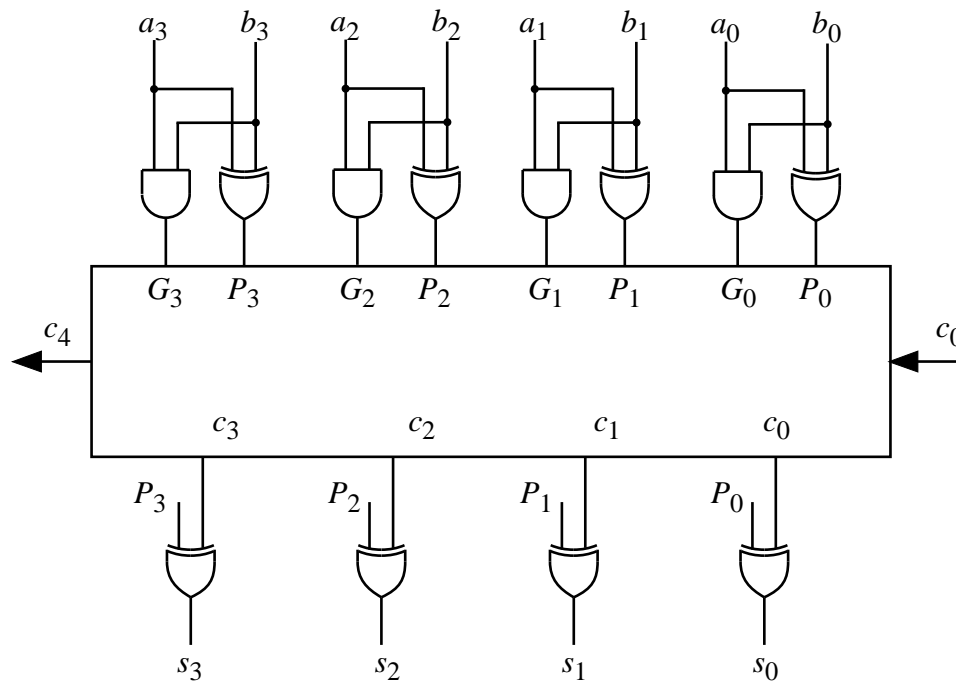

Figure 5: 4-Bit carry lookahead adder implementation detail.
Figure 5 shows that a 4-bit CLA is built using gates to generate the  $P_i$  and  $G_i$  signals and a logic block to generate the carry out signals according to Equations 10–13.
1. Write a VHDL code for a 4-bit CLA should be defined using structural description with components defined in Figure 5.
2. Using the data of Table 2 estimate the area required the 4-bit CLA in Figure 5 and for a 16-bit CLA.